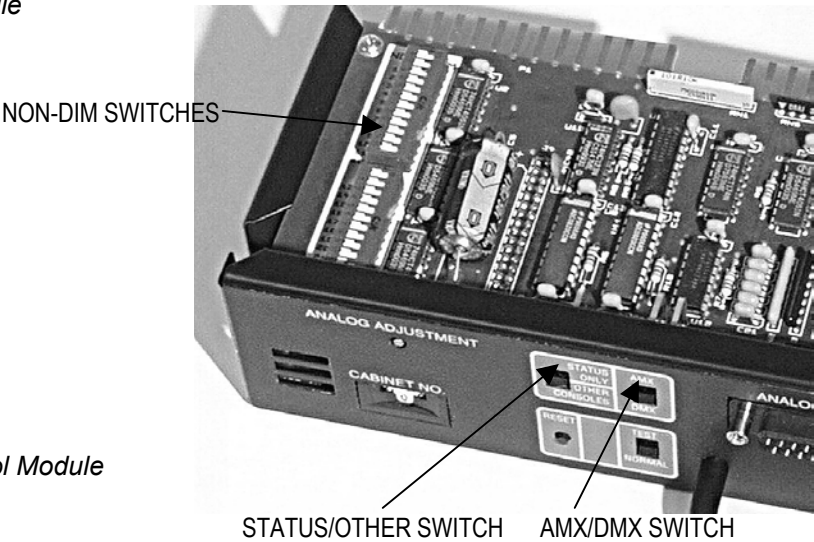

Figure 7 - Universal Control Module
- If the control module is a Universal type, verify that the AMX/DMX switch is in the DMX position and that the Status/Other switch is in the “Other” position. See Figure 7.
- Switch Non-Dim switches to select which dimmers are to operate in the Non-Dim mode. The Non-Dim mode switches are located on the left-hand side of the top printed-circuit board on the Universal Control Module. See Figure 7, page 7. In the off (left) position, the channel will function as a dimmer. In the on (right) position, the dimmer will function as a non-dim (fully off or fully on).